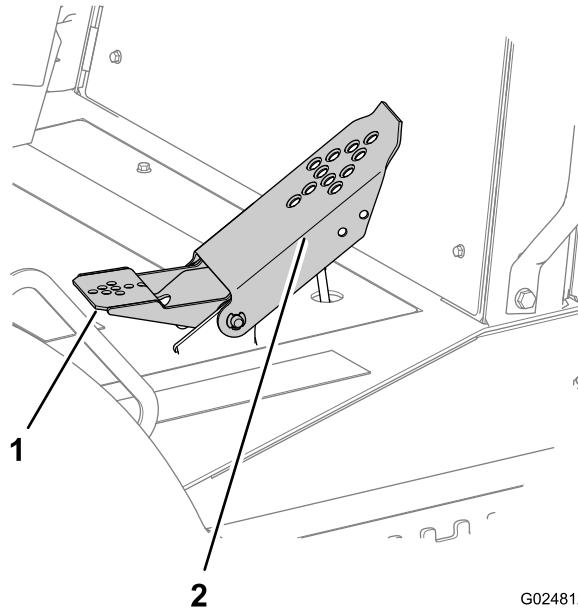

Figure 45
- Push down on the top of the pedal to move the machine forward (Figure 45).
- Push down on the bottom of the pedal to move the machine rearward (Figure 45).
- To reduce speed or to stop the machine, move the pedal up toward the Neutral position (Figure 45).